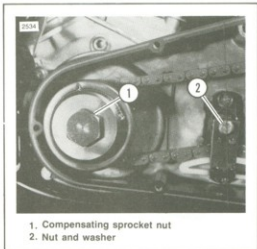

Figure 6-37. Compensating Sprocket Mounting
5. See Figure 6-37. Remove the nut and washer (1) and engine compensating sprocket nut (2). Pull the clutch hub-drum assembly while removing the compensating sprocket and chain with adjuster.